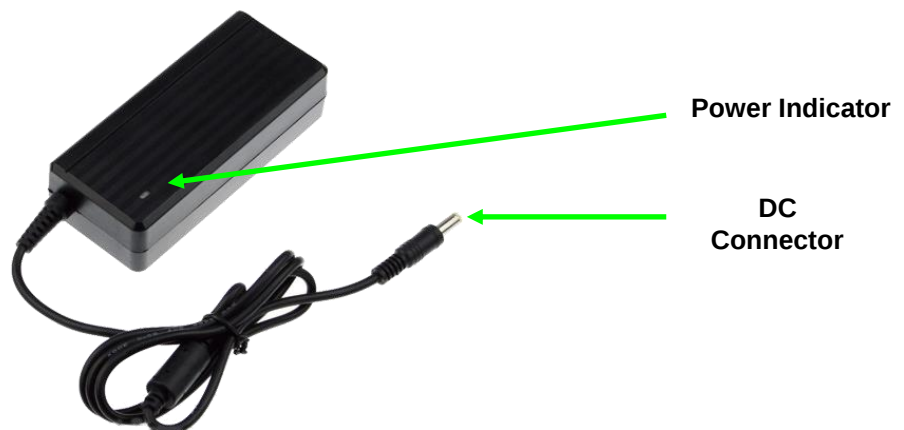

Figure 2-2. AC Power Adapter
1. Remove the **Power Adapter Charger** from the Test Set pouch (Figure 2-2).